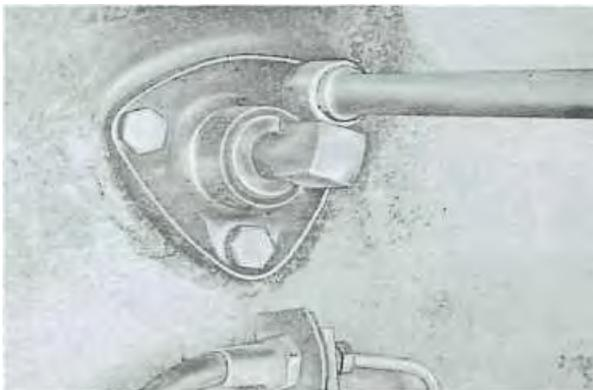

Fig. 50
2. Lightly tighten both bush supports, center the stabilizer, and torque hex bolts to 2, 5 mkp (18,1 lb/ft), (see Fig. 50)